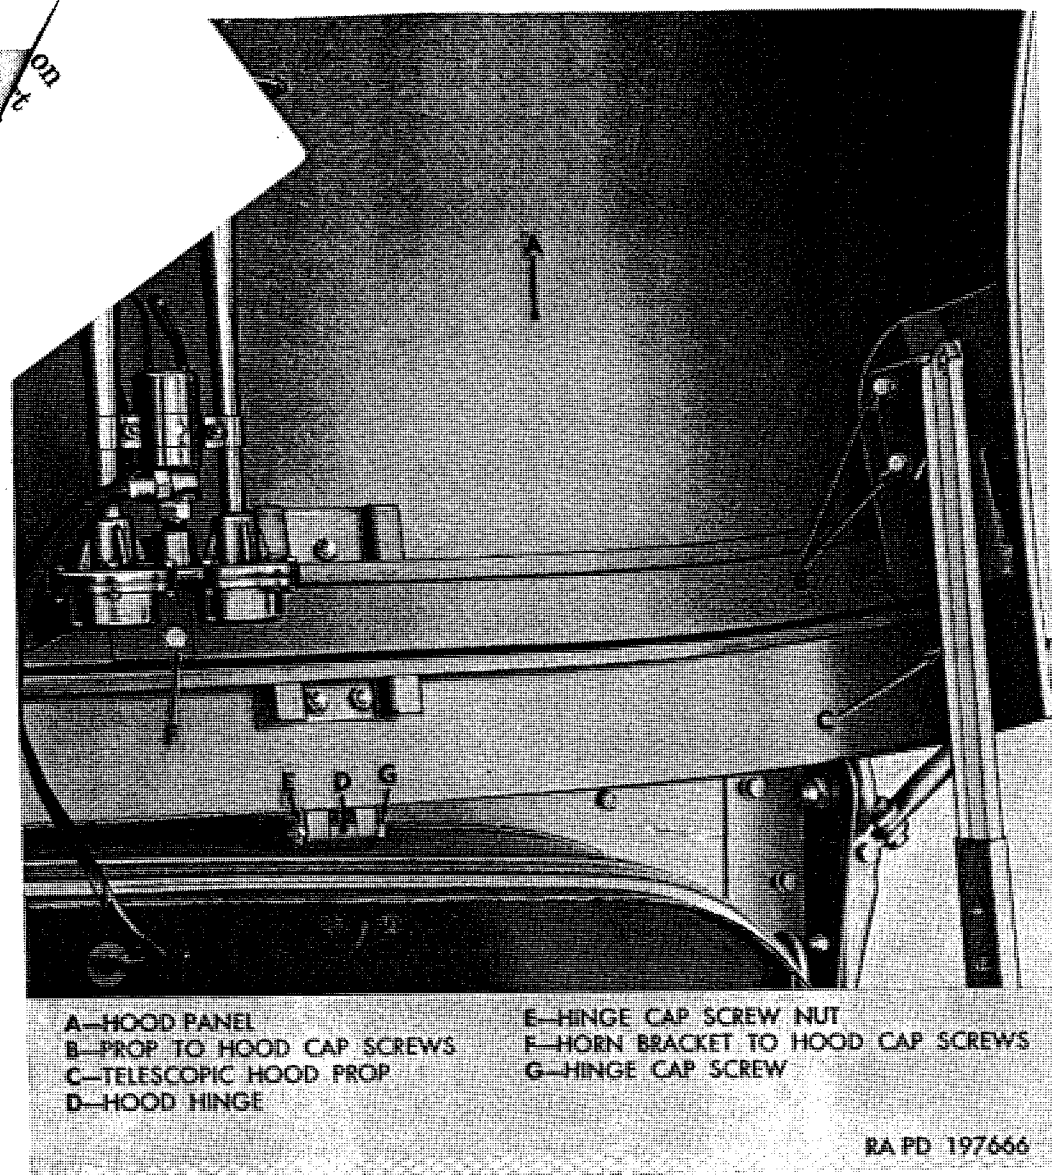

Figure 328. Engine hood installed (early model shown).
Note. The key letters noted in parentheses are in figure 328, except where otherwise indicated.
(1) *Removal.* Raise and support hood panel with a stick; then remove dowl extension panel (par. 304*d*(1)). Remove two cap screws (B, fig. 328) attaching hood support prop upper bracket to hood. Remove two cap screws attaching prop lower slide bracket to cab cowl. Remove prop assembly.
(2) *Installation.* Place prop assembly in position on vehicle; then install two $\frac{5}{16}$ -24 x $\frac{3}{4}$ cap screws and $\frac{5}{16}$ -24 nuts attaching hood prop lower slide bracket and cowl extension panel support to cab cowl. Install two $\frac{1}{4}$ -28 x $\frac{5}{8}$ prop to hood cap screws (B, fig. 328) with external-teeth lockwashers which attach hood prop upper bracket to hood panel. Install cowl extension panel (par. 304*d*(2)).